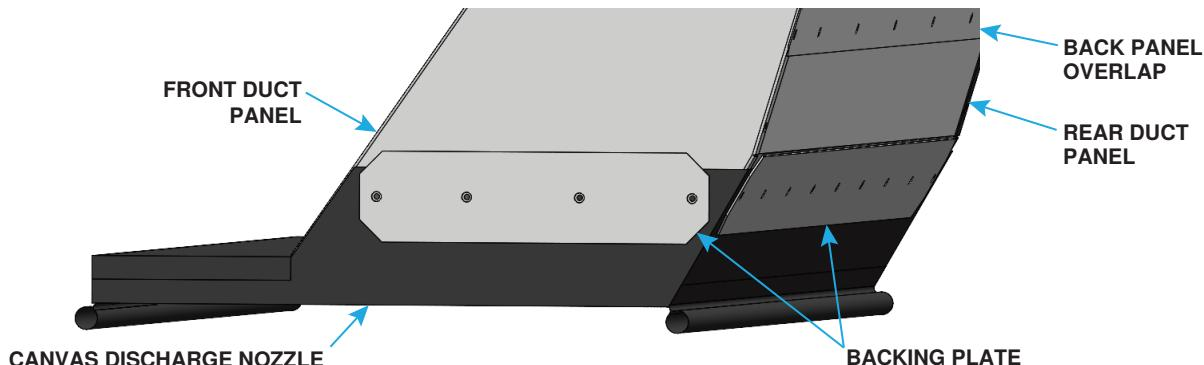

Figure 7. Discharge Duct and Canvas Discharge Nozzle
8. Using #10 screws, install discharge duct to bottom of unit as follows (see Figure 7). Ensure that back panel of unit overlaps rear and side duct panels as shown.
9. Install and secure canvas discharge nozzle (see Figure 7) to duct using backing plates and #10 screws.